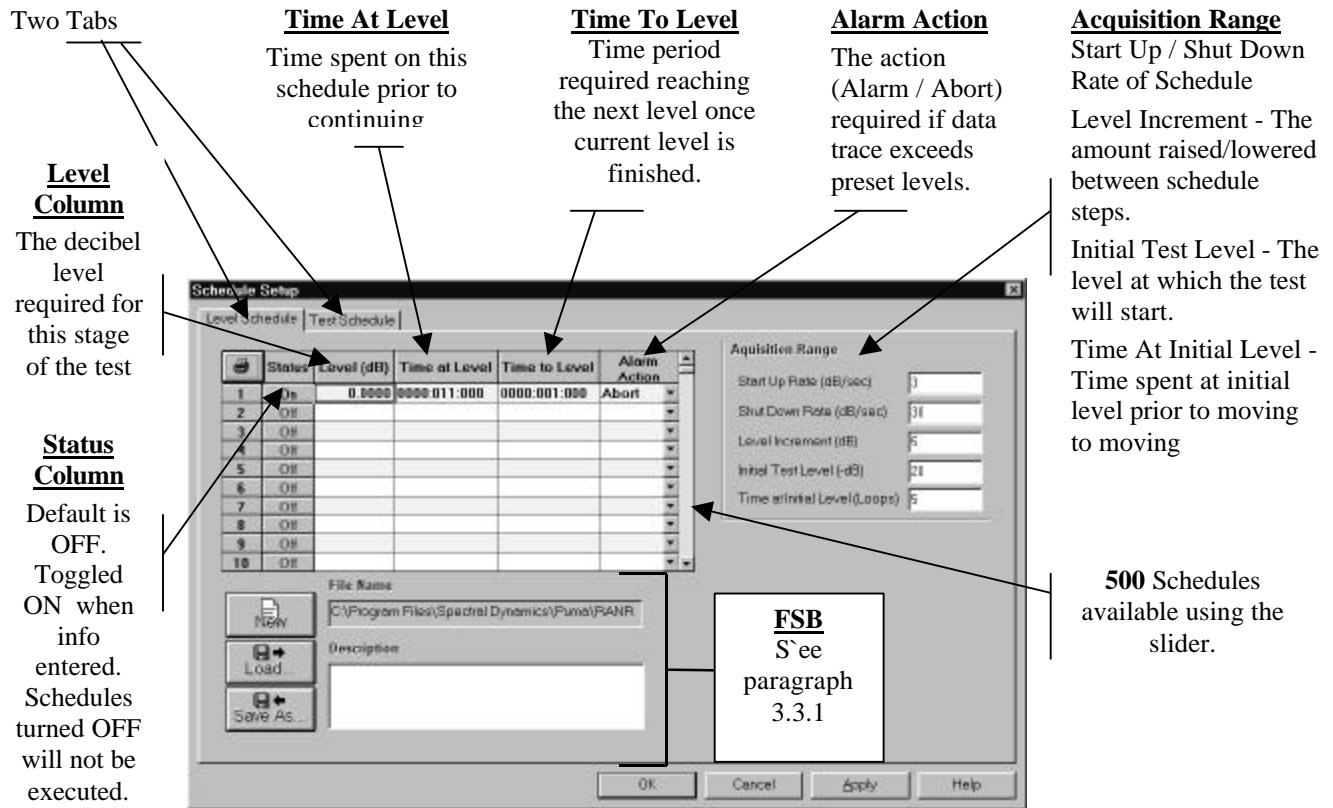

Figure 3-6. Schedule Setup
5. Click **SETUP** ⇒ **SCHEDULES**. The Schedule Setup Window appears. See Figure 3-6.